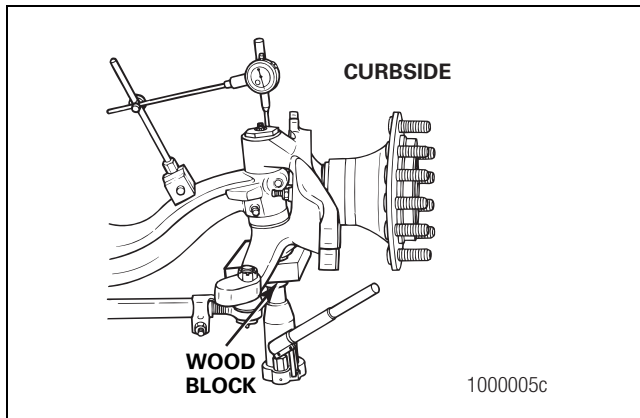

Figure 6.9
- Place a jack and a wood block, with a hole that allows clearance for the lower king pin grease fitting, under the lower king pin cap area. Figure 6.9.